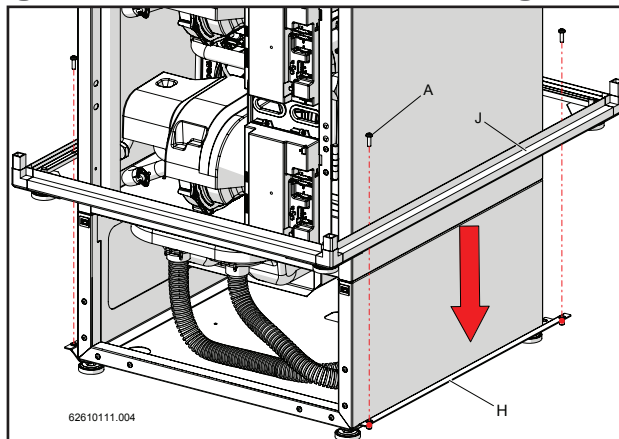
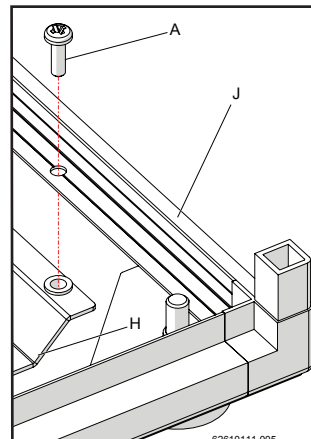

Figure 15-36
Figure 15-37
- 3.- Insert the lower framework "J" (figure 15-36) and attach it to rod "H" with the relative screws "A" in correspondence with the holes that are present (figure 15-37).